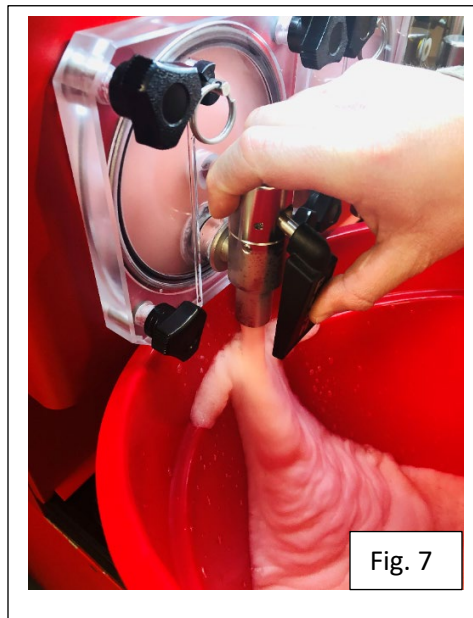

Fig. 7
2. Place a suitable container under each nozzle (Fig. 7) and dispense an amount equivalent to 2 – 16oz cups.